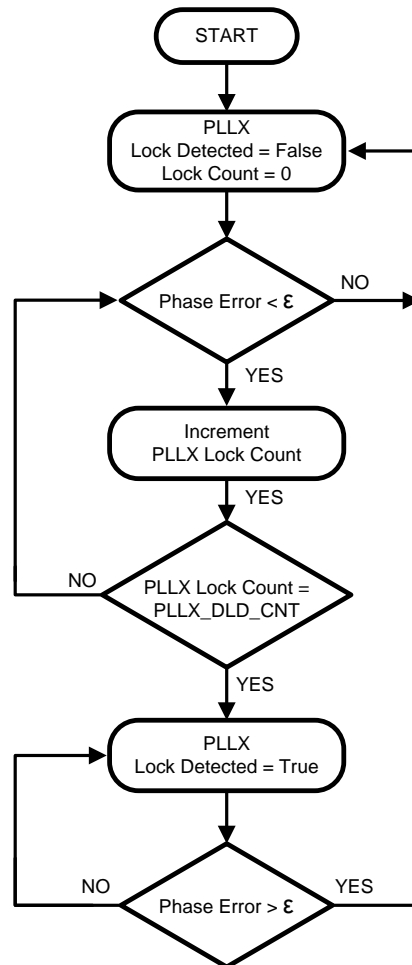

Figure 19. Digital Lock Detect Flowchart
Both PLL1 and PLL2 support digital lock detect. Digital lock detect compares the phase between the reference path (R) and the feedback path (N) of the PLL. When the time error, which is phase error, between the two signals is less than a specified window size (ϵ) a lock detect count increments. When the lock detect count reaches a user specified value lock detect is asserted true. Once digital lock detect is true, a single phase comparison outside the specified window will cause digital lock detect to be asserted false. This is illustrated in Figure 19.